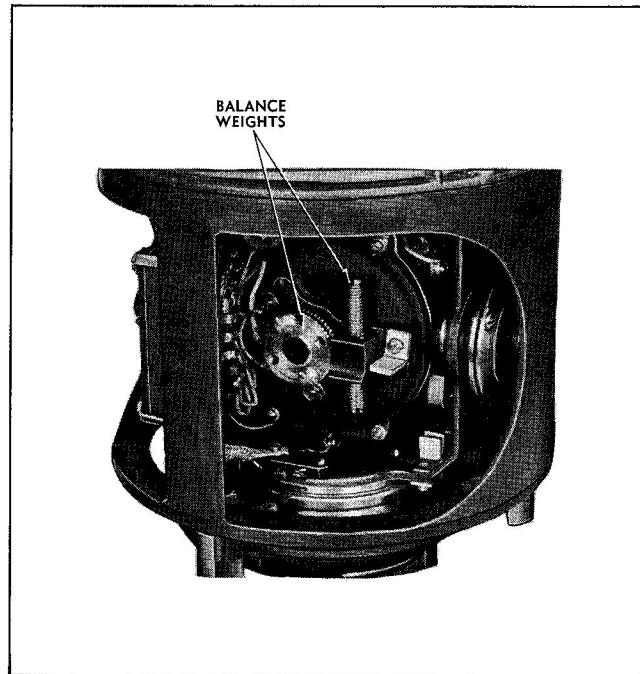

Figure 4-15 Static Balancing of Gyro Assembly - Gyro Axis Horizontal
(1) Rest the vertical ring and gyro assembly on a rubber or felt pad. Secure the vertical ring at the 270-degree heading with masking tape.
(2) Balance the left side of the gyro assembly against the right side by loosening the lock-screws and adjusting the round balance weights on either end of the housing in or out as necessary. (See figure 4-15.)
(5) Tighten the screws on both of the round balance weights, figure 4-15, to lock them in position and check the gyro assembly for mechanical interference by rotating it until it hits the stops.
(6) Remove the masking tape from the vertical ring and rotate the ring in the frame to check for any mechanical interference which may be present.